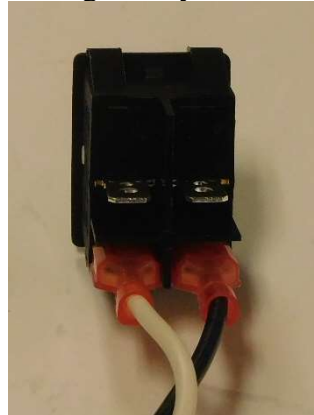

Figure 35-Installing power wires on the switch
9. Starting with the switch outside the chassis, push the FASTONS on the bottom switch terminals as indicated in Figure 35. The black or white wire may be on either side of the switch, so long as they both attach to the *bottom row* of contacts.